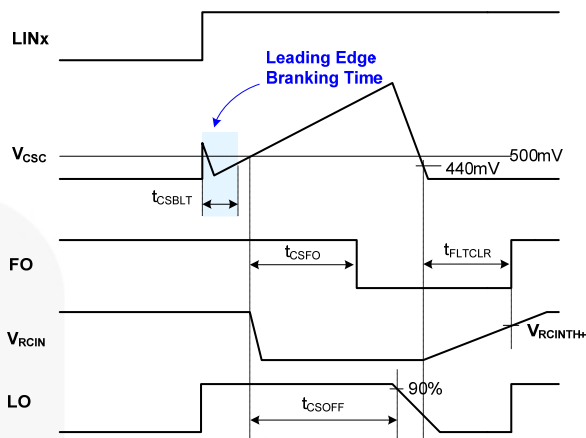

Figure 42.R_{CIN} and Fault-Clear Waveform Definition
Figure 42 shows the waveform definitions of RCIN, $\overline{\text{FO}}$ and the low-side driver, which uses a soft turn-off method when an under-voltage condition of the low-side gate driver supply voltage (V_{DD}) or the current-sense pin (CS) recognizes a fault. Once a fault condition occurs, the $\overline{\text{FO}}$ pin is internally pulled to COM and all outputs (HO1,2,3 and LO1,2,3) of the gate driver are turned off. Low-side outputs decline linearly by the internal sink current source ($I_{\text{SOFT}}=40 \text{ mA}$) for soft turn-off, as shown in Figure 42.